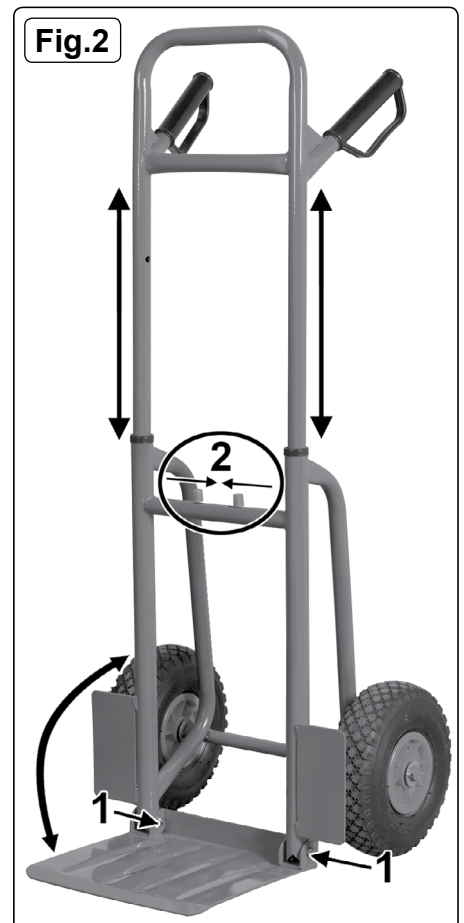

Fig.2
- 5.2. Fold down the toe plate ready to accept a load. (See fig.2)